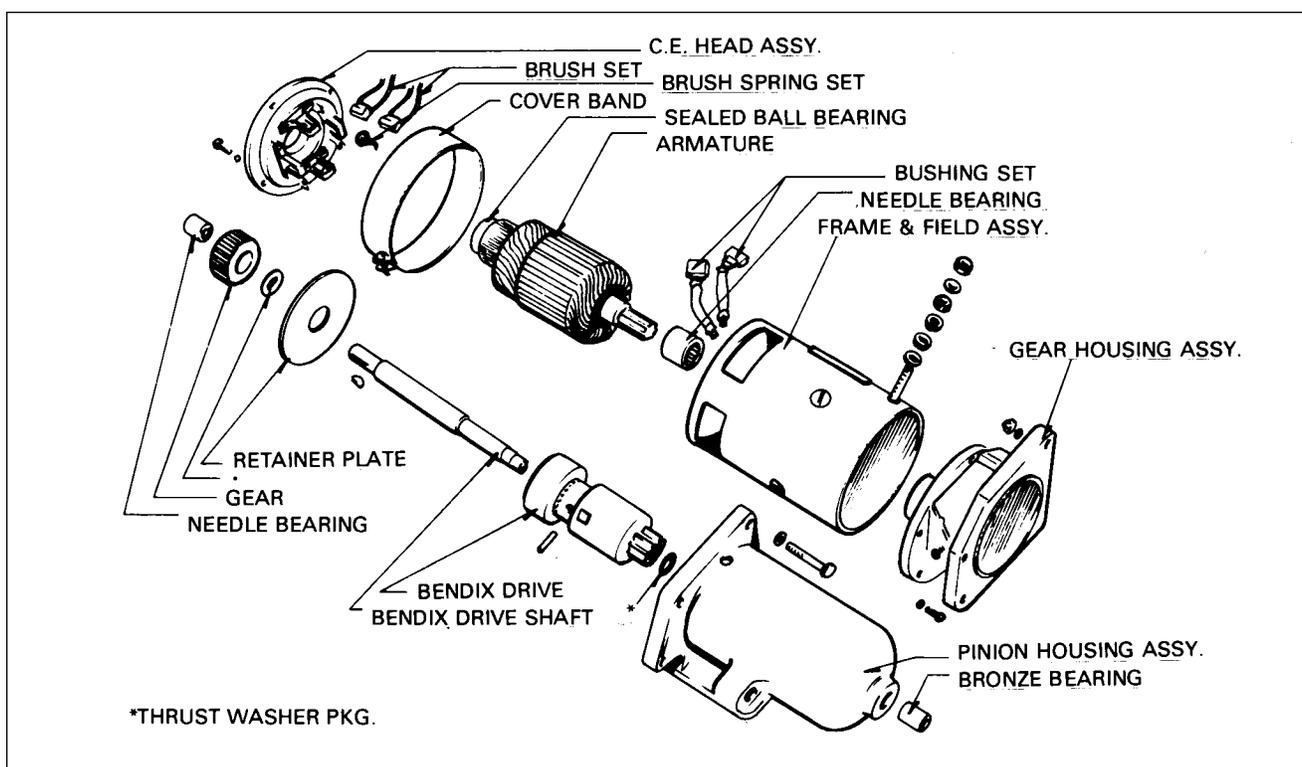

Figure 80-1. Exploded View of Gear Reduction Starting Motor
**DESCRIPTION AND OPERATION.** (Refer to Figure 80-1.)